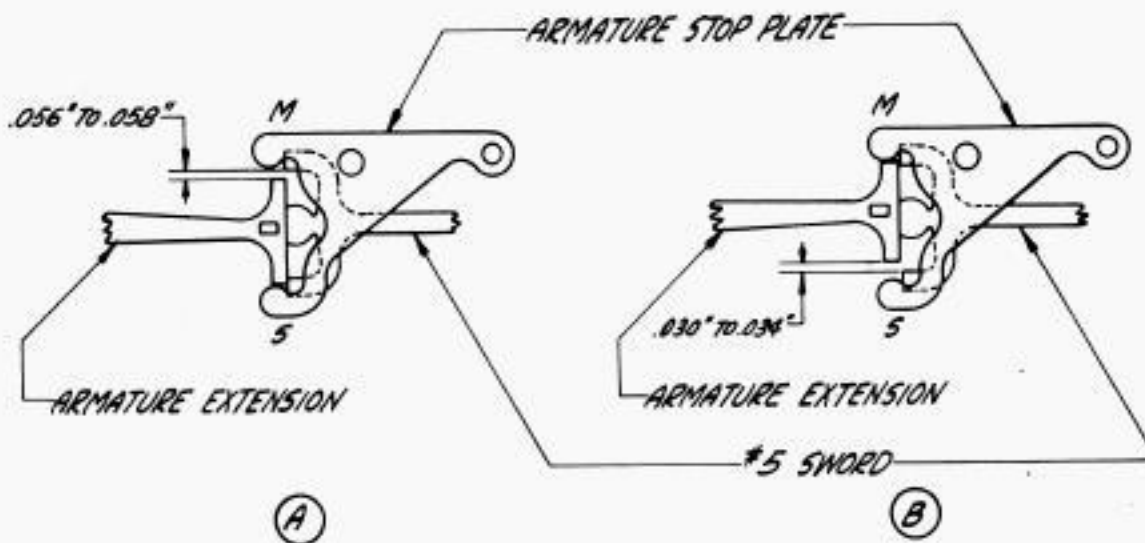

FIGURE 7
Armature Stop Adjustment for Six-Unit Reperforators (Figures 7-A and 7-B) - See Note (A)
Turn the main shaft until the No. 5 selector lever (outer) is on the peak of its cam. With the spacing arm of the No. 5 sword against the spacing side of the armature extension, there should be from .056" to .058" clearance between the sides of the armature extension and the No. 5 sword on the marking side (See Figure 7-A). Now place the armature and sword in the marking position. There should be from .030" to .034" clearance between the sides of the armature extension and the No. 5 sword on the spacing side (See Figure 7-B). To obtain these requirements, adjust the position of the armature stop plate by means of its mounting screw.